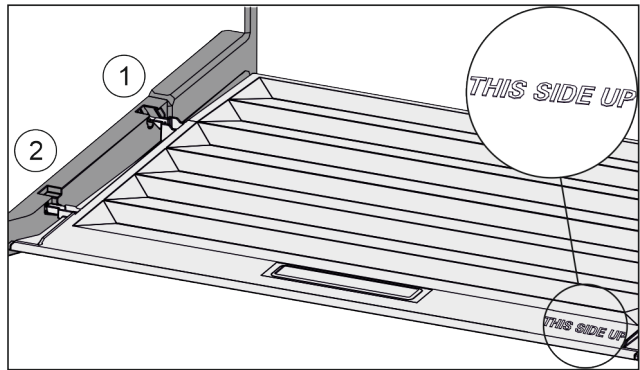

Fig. 84
- ▶ Insert the lip of the cover over the opening of the rear bracket *Fig. 84 (1)* and click into place *Fig. 84 (2)*.